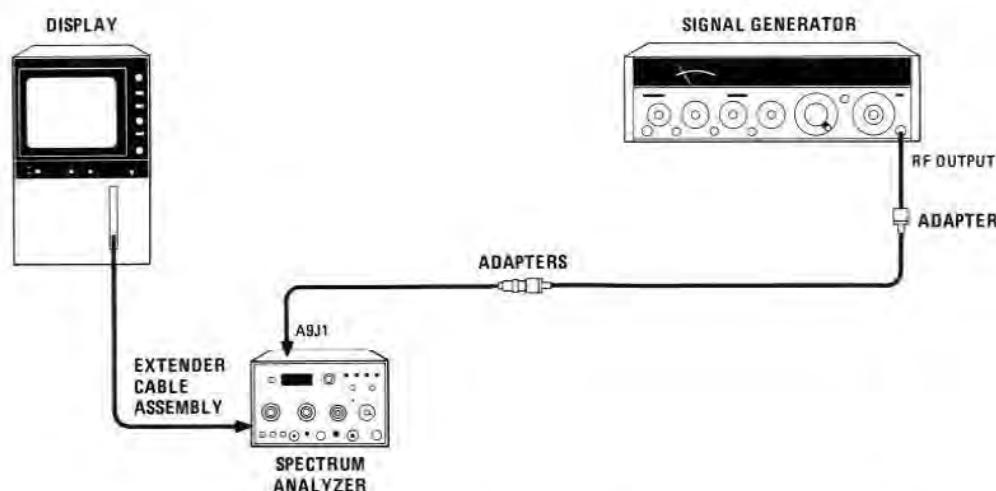

FIGURE 4-9. RESOLUTION BANDWIDTH ACCURACY TEST SETUP, 1 kHz TO 30 kHz
13. Connect equipment as shown in Figure 4-9. Remove W7P1 from A10J2. Connect signal generator through adapters to W7P1.